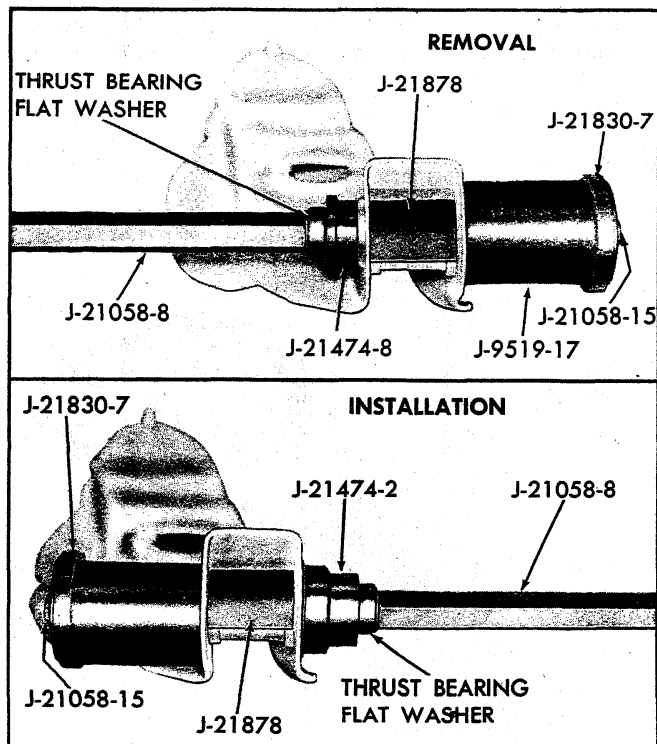

Fig. 31 - Lower Control Arm Bushing - Chevrolet
2. Install Tools J-21058-8, J-21058-15, J-21830-7, J-9519-17, J-21474-8, special thrust washer and a flat washer as shown in Figure 31. Use J-21878 as shown to prevent collapse of the control arm.
1. With Spacer J-21878 in place to prevent collapse of the control arm, install Tools J-21058-8, J-21058-15, J-21830-7, J-9519-17, J-21474-2 special thrust washer and flat washer as shown in Figure 31.